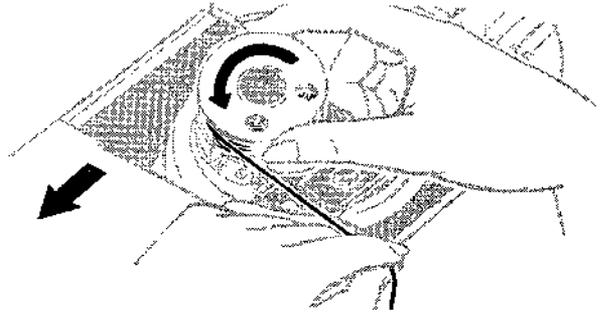

FIG. 31.
- Open slide plate. Insert bobbin with thread leading off as shown in Fig. 31.